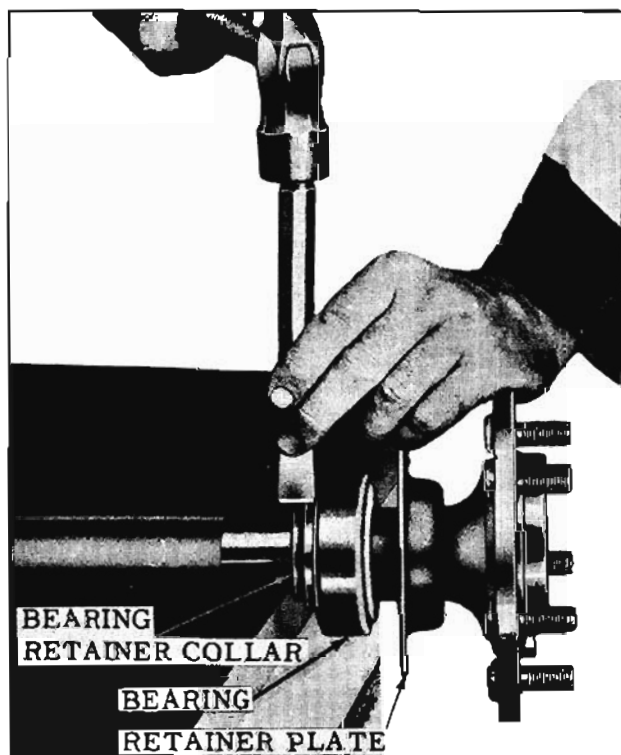

Fig. 9-41 Removing Bearing Retainer
1. With axle shaft removed, remove bearing retainer collar after splitting with cold chisel as shown in Fig. 9-41. Do not damage axle shaft.